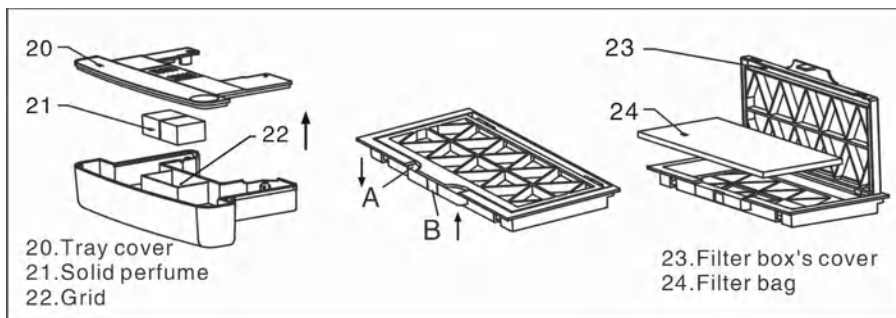

fig.7
1. Remove tray cover and you will find a grid in tray. A solid perfume can be put here to bring fresh air while drying hands (see fig.7).
2. Remove filter box, open its cover, there is a filter bag inside. It can prevent blockage of dust lint comes from air inlet. Please contact our distributors to order this filter bag (see fig.7).